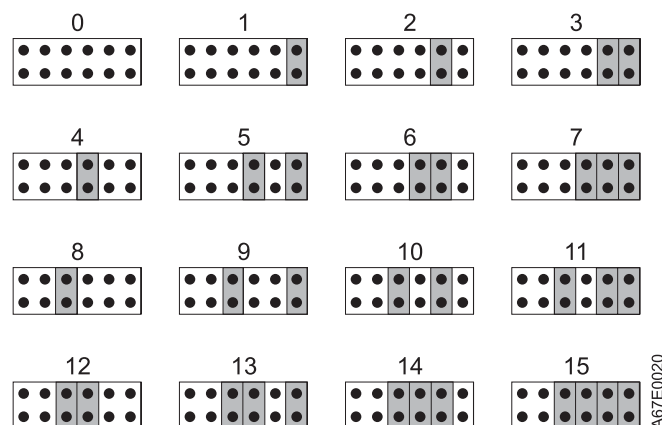

Figure 2-2. SCSI ID settings on the SCSI ID connector
3. Referring to Figure 2-2, find the ID number that you chose then place jumpers on the connector pins as shown (use a pair of needle-nose pliers to connect the jumpers to the pins that are shaded).
If the drive is being installed into a tape library, a command can be issued from the library to set the drive's SCSI ID through the LDI interface. Make sure that the SCSI ID is set to 15 (see Figure 2-2). When configured to accept its SCSI ID through the LDI interface, the drive does not respond to SCSI commands until it receives a SET™ CONFIGURATION command through the interface.